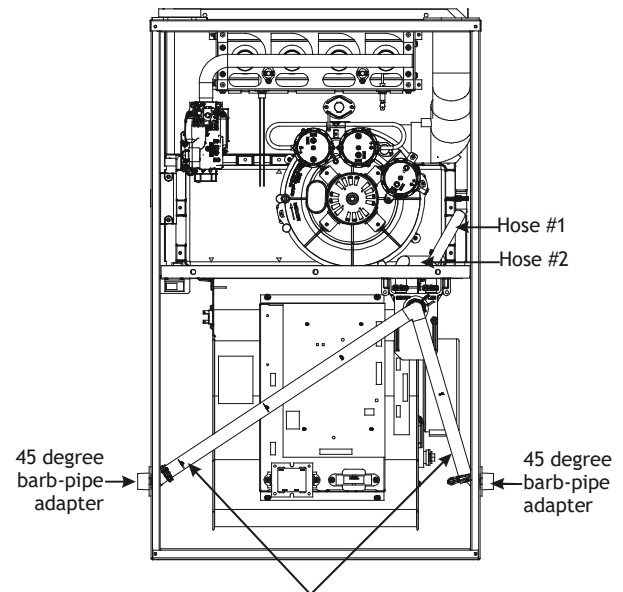

FIGURE 25
The trap and factory installed hoses remain as shipped. The furnace drain may exit either the right or left side of the furnace cabinet. Both sides of the cabinet have two .875" diameter holes which can be used interchangeably for drain and low voltage wiring purposes. If a higher drain exit is needed, a .875" diameter hole may be added in the area shown in Figure 25. Any unused cabinet opening must be sealed. Do not allow drain hose to sag or trap water.
1. Locate and Install the 45° pipe / hose drain coupling from the outside of the cabinet (barbed end goes in the cabinet) through hole in the right side of the cabinet and secure with two field supplied #8 self-tapping screws (see Figure 25).